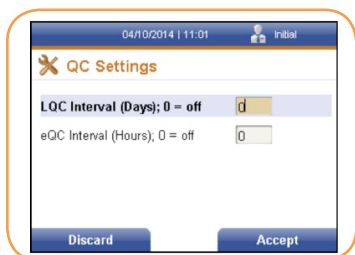

FIGURE 14
2. Press the right soft key to select it. The QC Settings (Figure 14)